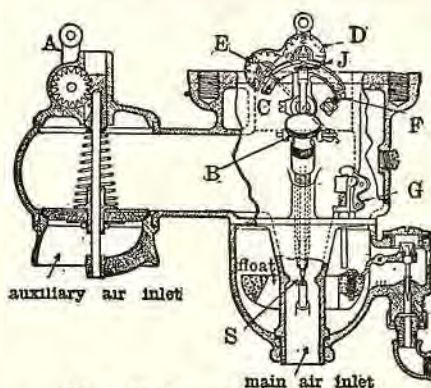

Fig. 2. Schebler model "L" carburetor.
Zenith (Fig. 2): The level of the gasoline is maintained in the float chamber so that the gasoline stands 3 millimeters below the top of the jet, or about $\frac{7}{64}$ ". To regulate the level, note the washers (L), Fig. 2.
Fig. 2. This illustration shows the level of gasoline in the float chamber and in the jet of the Zenith carburetor. If the float level was above the jet, the gasoline would run out of the jet.
Stromberg: Note the level of gasoline in the float chamber in Fig. 2. This illustration will give the reader an idea as to the relation of the level of the gasoline in the float chamber to that in the jet. On the Stromberg models "H," "L," and "M," the fuel level in float chamber should be about one inch below the top machined surface of the float chamber. This can be adjusted by removing the dust cap and loosening the nut; if the gasoline is too low, screw adjustment up; if the gasoline is too high, screw adjustment down.